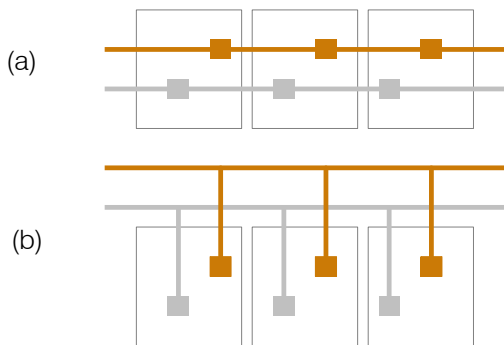

Figure 1. Poor (a) and good (b) ductwork design
- **Avoid running ductwork through adjacent classrooms.** Position mechanical equipment over hallways and run ductwork to nearby classrooms (Figure 1).